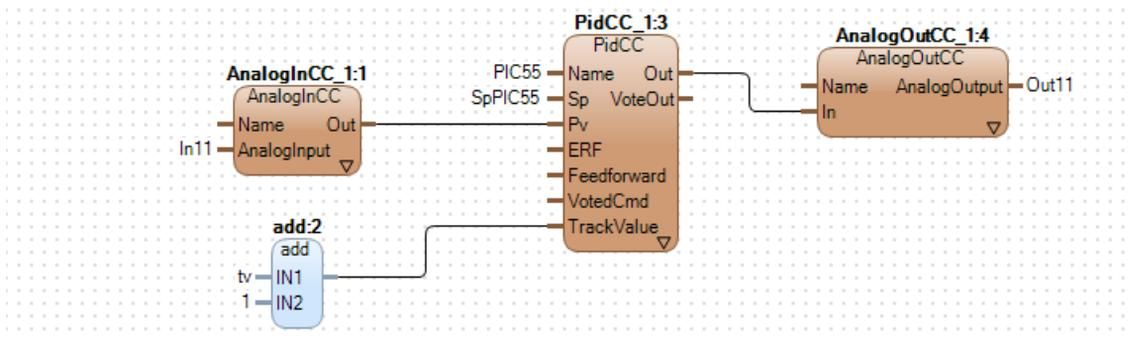

Figure 12. Example logic created in the graphical code pane of diagram type editor
- Graphical programming editor for FD (Function Diagram) (only in diagram type editor, see Figure 12)
To open this editor, right-click the diagram type, and select Editor. Figure 12 shows an example logic created in the FD code block of diagram type editor.